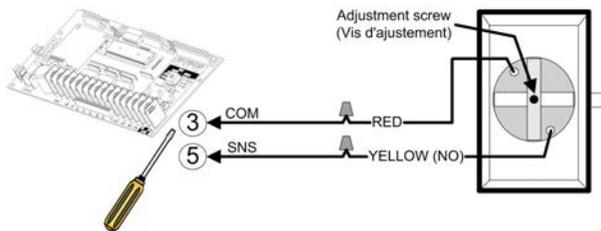
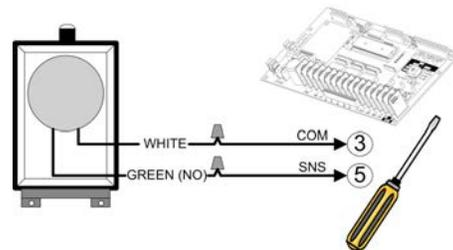

Figure 35 - AIRSWITCH 001 / 007
Figure 36 - AIRSWITCH 009 / 018
3. Use a coil cord or take-up reel to connect the air switch to the operator terminals. Install electric wires according to Figure 35 or Figure 36.